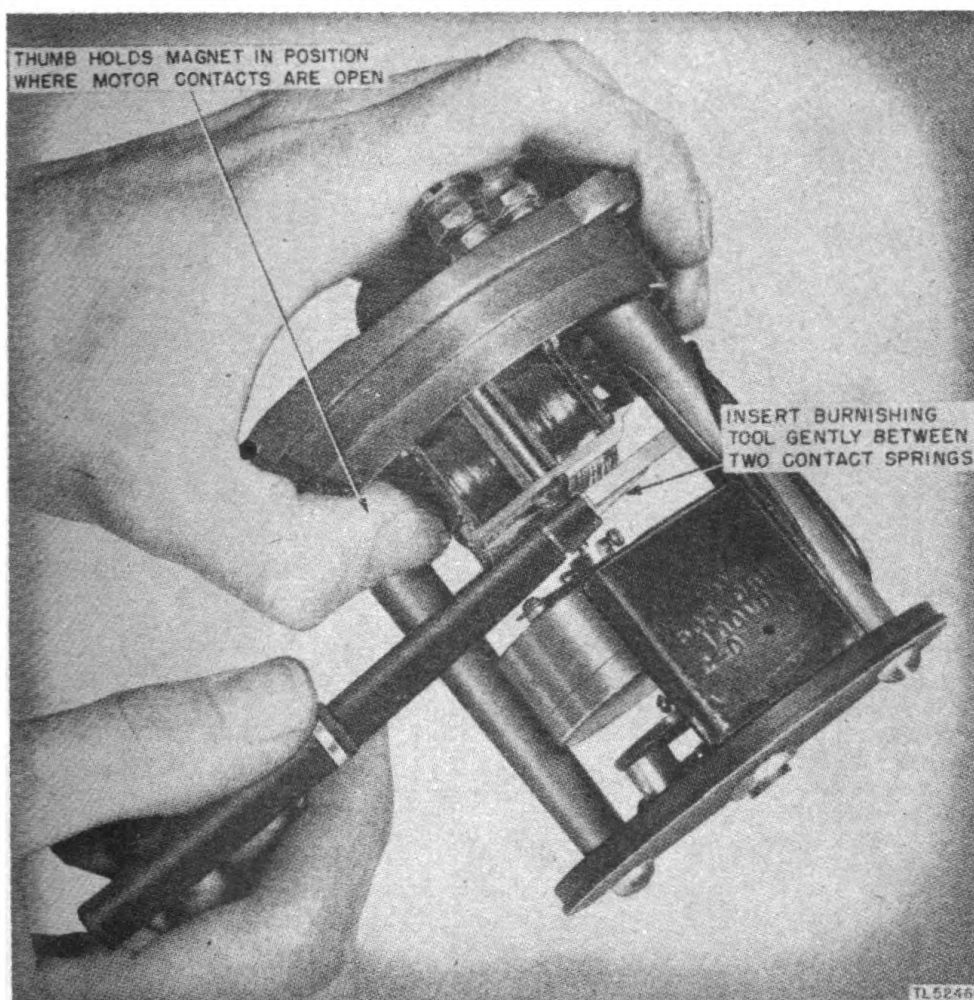

Figure 31. Cleaning clock motor contacts.
a. CLOCK. (1) *Contacts.* (a) *Motor contacts.* To dress the motor contacts, follow the procedure below:
2. Grasp the unit by the top plate, hold it upside down, and hold the magnet with the thumb to prevent the mechanism from oscillating (fig. 31).